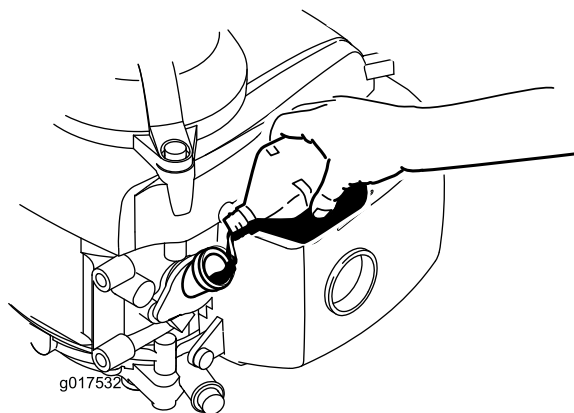

Figure 6
3. **Slowly** pour oil into the oil-fill hole, wait 3 minutes, and check the oil level on the dipstick by wiping the dipstick clean and then inserting, **but not screwing in**, the oil-fill cap into the hole (Figure 6).